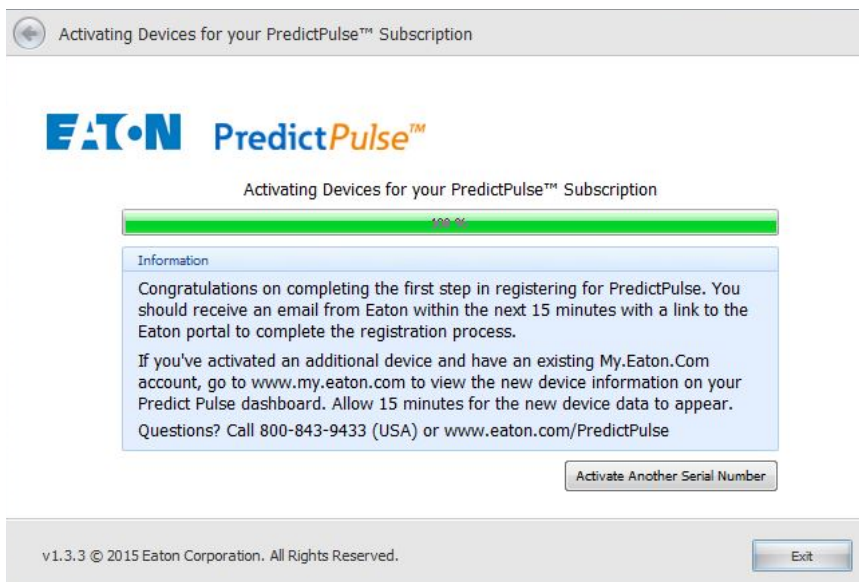

Figure 13. Example of First Step E-mail
- When this stage of registration completes, an information window explains the next step (see Figure 13). Click **Activate Another Serial Number** to register multiple devices or click **Exit** to continue.